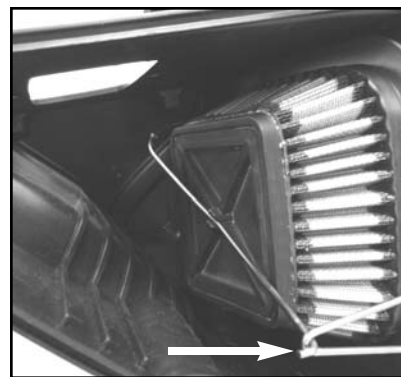

Fig. 3
5. Fasten the air filter retainer. (Fig. 3)